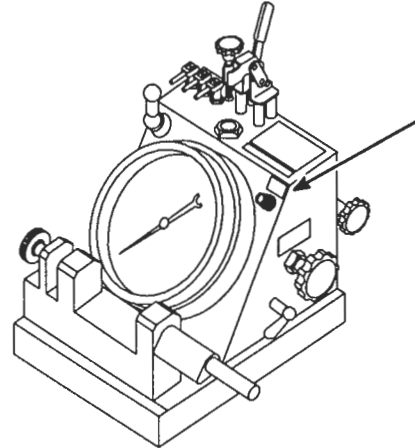

Figure 13. Adjusting the Calibrating Valve
3. Adjust the calibrating valve, so that the gage needle is exactly at the set line (Figure 13.)